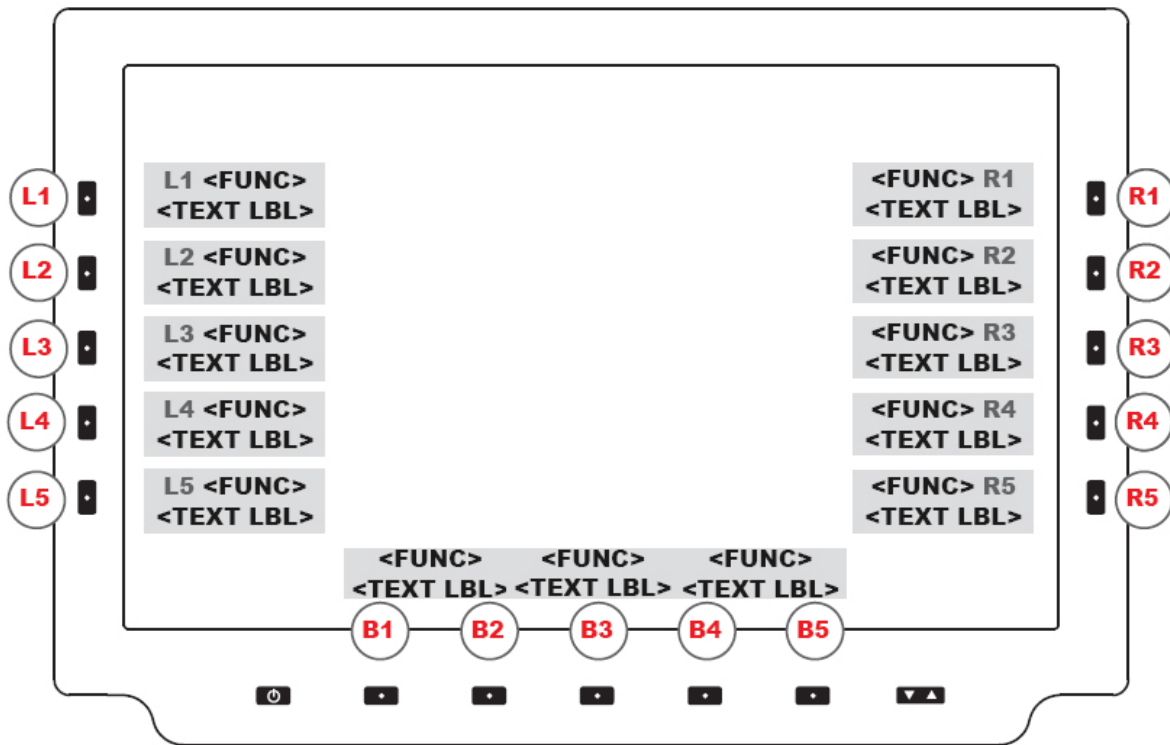

FIGURE 18
PROGRAM BTN (L2). Initiates PROGRAMMABLE BUTTON ASSIGNMENT MENU (Figure 18).
There are fifteen (15) soft keys with illuminated center dots on the front bezel, in a layout of five buttons on the left (labeled L1-5), right (labeled R1-5), and along the bottom (labeled B1-5) of the display. (Figure 18) These buttons are used to select the on-screen menu options. User will press the button corresponding to the on-screen menu feature desired.
BACK (R5). Returns to BUTTON ASSIGNMENT MENU, (Figure 18).